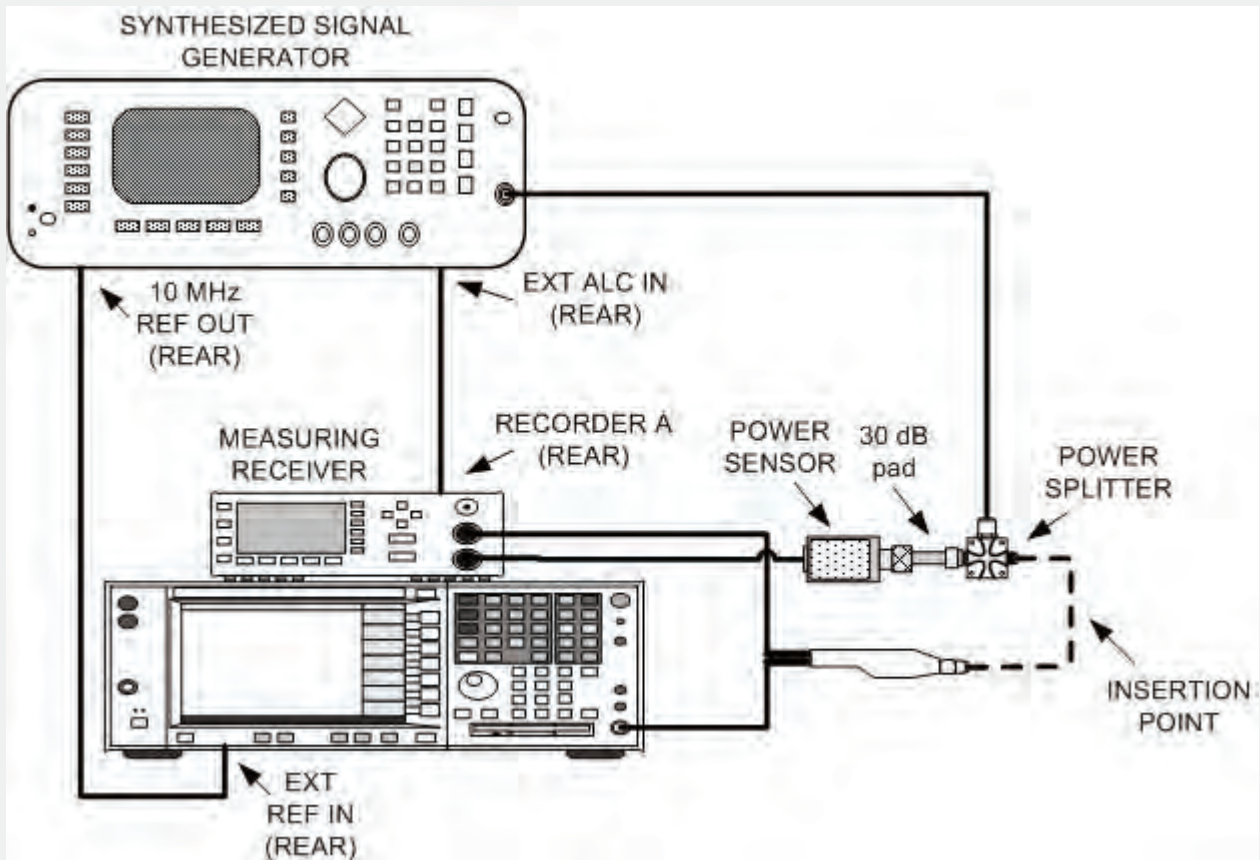

Figure 1. Attenuation measurement (10 MHz to 26.5 GHz equipment setup)
d. Connect equipment as shown in figure 1 and allow equipment to warm up for 1 hour before performing paragraph 8 or 9 below.
(4) Adjust signal generator output for 0.0 dBm indication on measuring receiver.
(5) Configure measuring receiver in the ratio mode.
(6) Connect the attenuator at the TI INSERTION POINT as shown in figure 1.
(7) Measure and record measuring receiver indication. Measured attenuation will be within range and accuracies specified in Appendix A for TI being calibrated.
(7) Measure and record measuring receiver indication as insertion loss. Measured attenuation will be within range and accuracies specified in Appendix A, insertion loss column, for TI being calibrated.
(8) Increase TI attenuation setting in one step increments (or one cardinal point as desired.)
(9) Measure and record measuring receiver indication. Measured attenuation will be within range and accuracies specified in Appendix A for TI being calibrated.
(10) Repeat steps (1) through (9) above for remaining test frequencies recorded in **7 a** above.